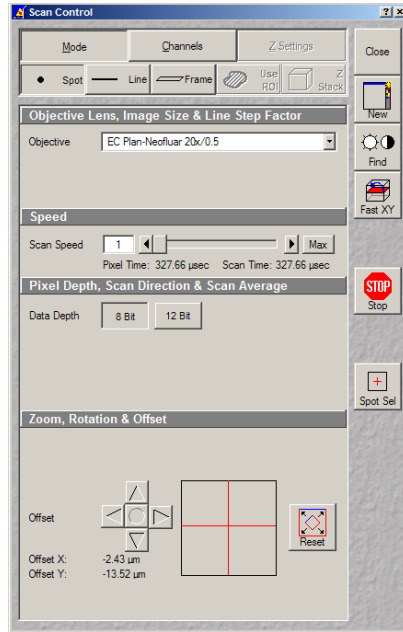

Fig. 2.14: Point Measurement Mode in the LSM510 software.
1. **LSM510 software:** Enable the “Spot” measurement mode (Fig. 2.14). Clicking on “Spot Sel” results in scanning of an image where you can select a position for your point measurement. The scanner only moves to the indicated position, when the time series measurement is started and moves back to the standby position after the measurement has stopped (Fig. 2.15).
3. **LSM510 software:** Open the Time Series window and set the number of iterations to maximum as shown in Fig. 2.16. The total scan time depends on the number of iterations and the scan speed (Fig. 2.14). Approximate times for different scan speeds are given in Tab. 2.1.